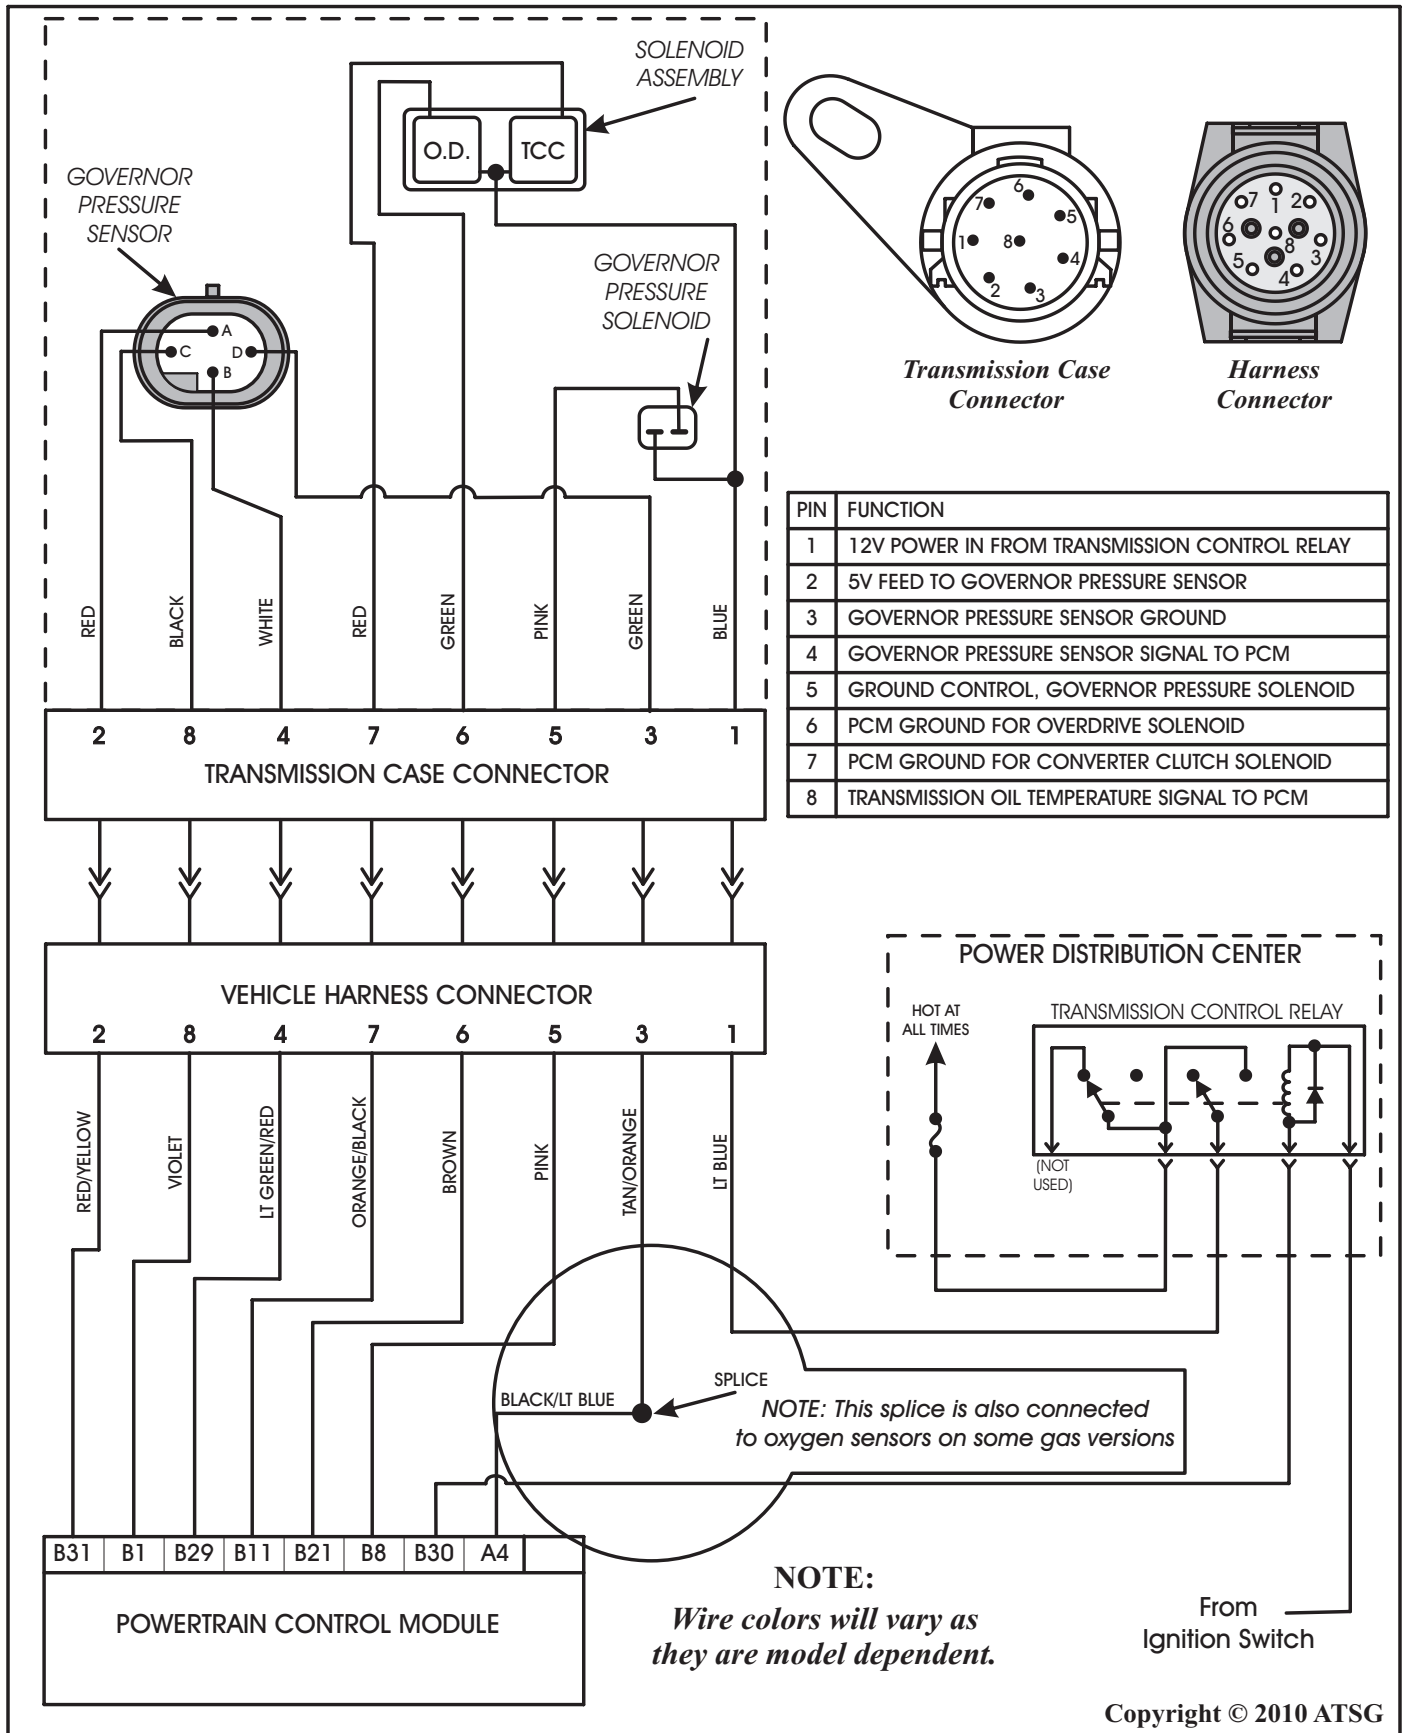

Figure 1
1. One cause could be that the ground circuit for the governor pressure sensor has been compromised (See Figures 1 and 2).